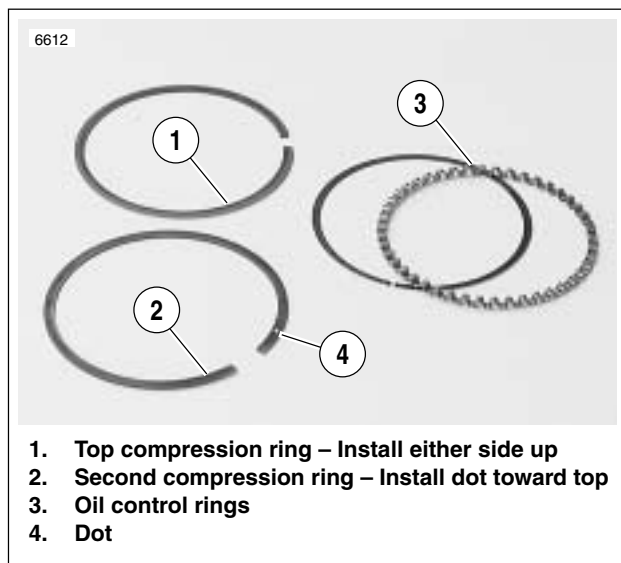

Figure 3-95. Piston Rings
See Figure 3-95. Piston rings are of two types: compression (1, 2) and oil control (3). The two compression rings are positioned in the two upper piston ring grooves. The dot (4) on the second compression ring must face upward.